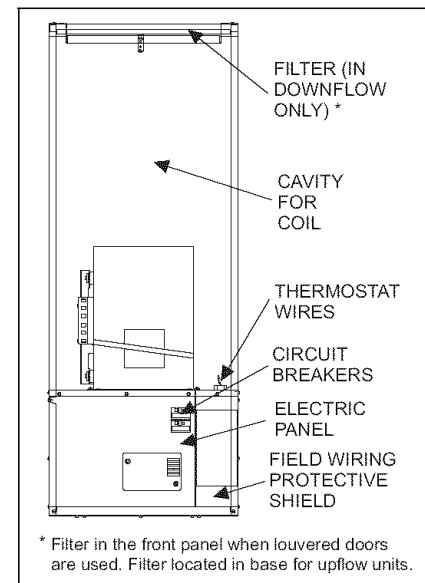

FIGURE 1
To remove blower from furnace, turn off power at household service box, turn furnace circuit breakers OFF. Disconnect wiring to blower, and remove five (5) screws holding blower in furnace and slide blower out from front of the furnace. See Figure 1.
Your electric furnace is equipped with a unique safety feature - circuit breakers. These circuit breakers are located behind the door of the furnace, near the bottom of the furnace. See Fig. 1. If a component should fail inside the furnace, the circuit breakers will prevent damage that can be caused by an electrical short. If the breakers ever trip, they can be reset by first turning off the power to the furnace at the home's circuit breaker panel. See Warning below. Then remove the furnace door and reset the circuit breaker in the furnace. Reinstall the furnace door and turn the power back on at the home's breaker panel. If for some reason these circuit breakers should trip again, a service technician should be contacted as a problem exists inside the furnace. A list of authorized service centers is provided with every furnace and will assist you in obtaining service for your furnace.
**FILTER LOCATION:** The furnace's front panel must be removed to gain access to the filter of the downflow furnace. (See Figure 1.) However, the filter for the upflow furnace\* is located behind the return air grill, adjacent to the furnace closet or any other location in the return air.